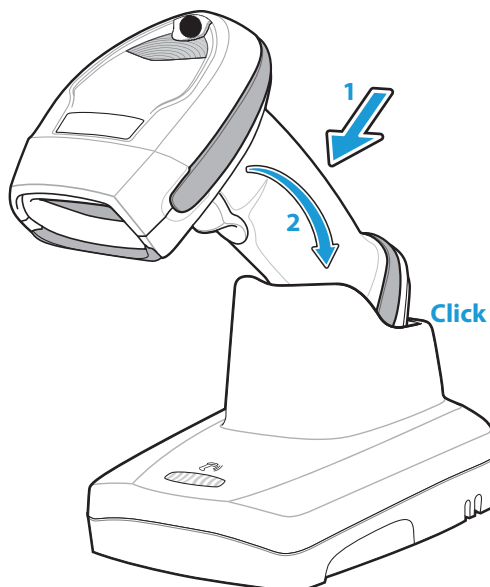

**Figure 1-11** Vertical Mount - Inserting the Linear Imager Scanner in the Cradle
3. Ensure the desk/wall mount converter knob is in the position shown in *Figure 1-11*.